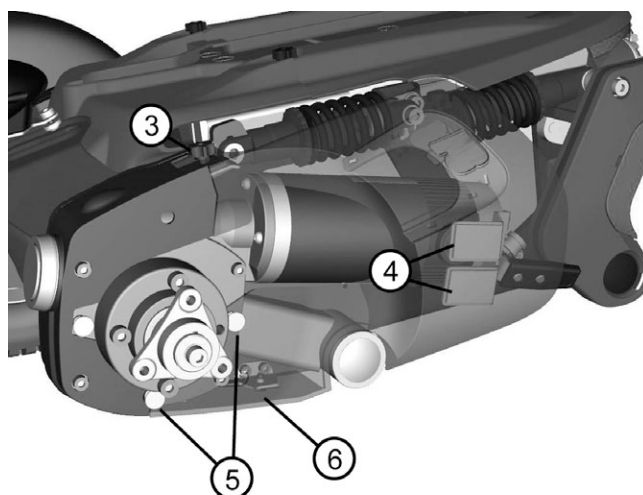

Figure 17. The drive motor cover is assembled with a knob (3) on the top and a dual lock (4) on the side and a fixing point (5) at the bottom.
The drive motor cover is assembled with a knob (3) on the top and hook and loop fasteners (4) on the side and a fixing point (5) at the bottom. See fig. 17.
1. Remove the knob (3). See fig. 17.
2. Pull the upper rear edge of the drive motor cover straight out to release the hook and loop fastener (4). Bend a bit at the lower edge to release the cover from the fixing point (6) and then pull it straight backwards to release it from the fixing points (5).